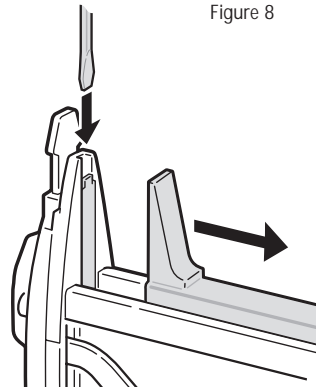

Figure 8
4. If necessary, insert a flat-blade screwdriver so that it touches the tip of the driver blade. See Figure 8. Tap the screwdriver with a hammer. The screwdriver will push the driver blade back, freeing the jam.